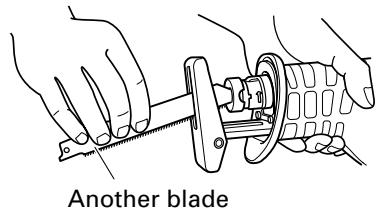

Fig. 12
- (1) If a part of the broken saw blade is sticking out of the small slit of the plunger, pull out the protruding part and take the blade out.
- (2) If the broken saw blade is hidden inside the small slit, hook the broken blade using a tip of another saw blade and take it out. (Fig. 12)